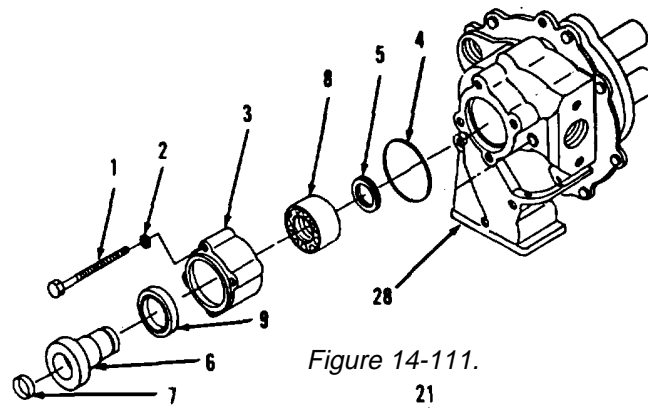

Figure 14-111.
1. Remove four bolts (1), washers (2), cage (3) and seal (4) from manifold (28, Figure 14-111). Discard seal (4).
2. Remove ring (5), coupling (6), plug (7), bearing (8) and seal (9) from cage. Discard seal (9).
9. Install cover (14), four washers (13), bolts (12), two washers (11) and bolts (10).
10. Install new seal (9, Figure 14-111) on cage. Lip of new seal (9) must face toward inside of cage.
11. Install bearing (8), plug (7), coupling (6) and ring (5).
12. Install new seal (4), cage (3), four washers (2) and bolts (1) on manifold (28).